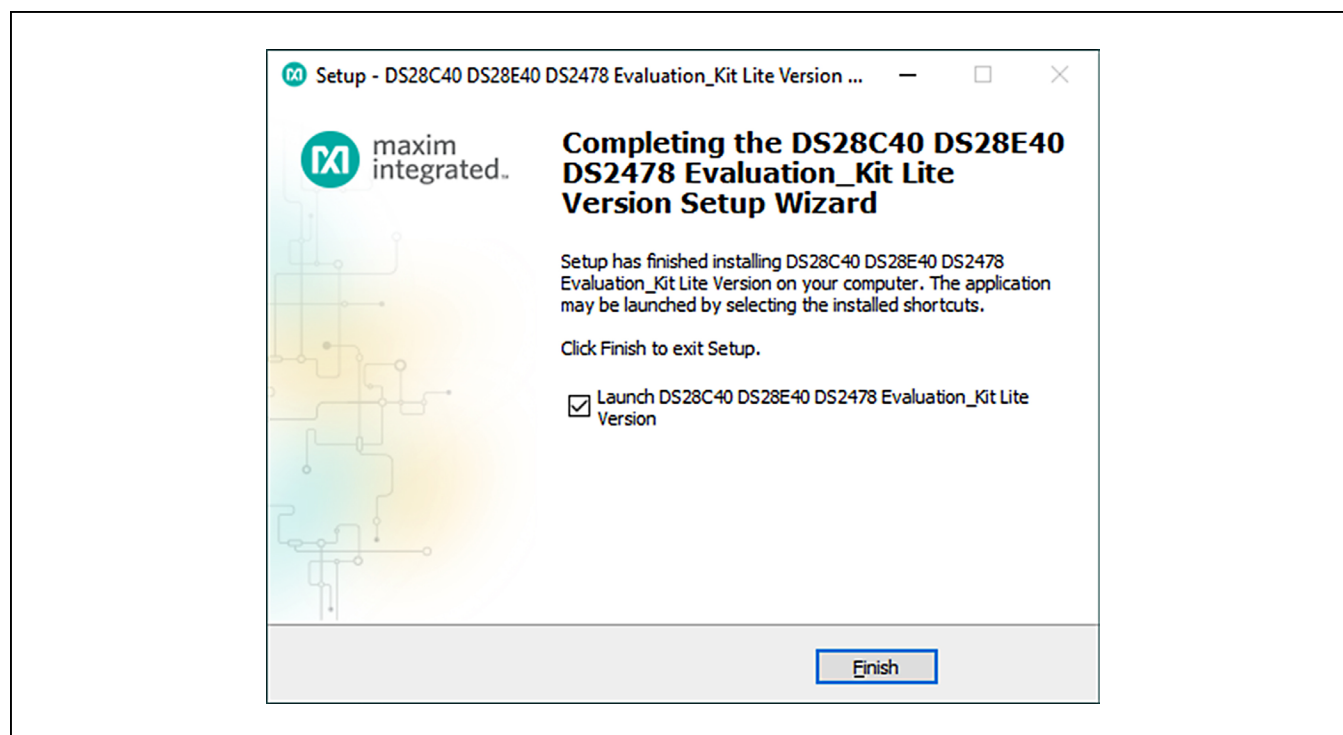

Figure 5. Run Software After Installation
- 5) Wait for the installation to complete and **launch** the program if desired after completion (Figure 5).